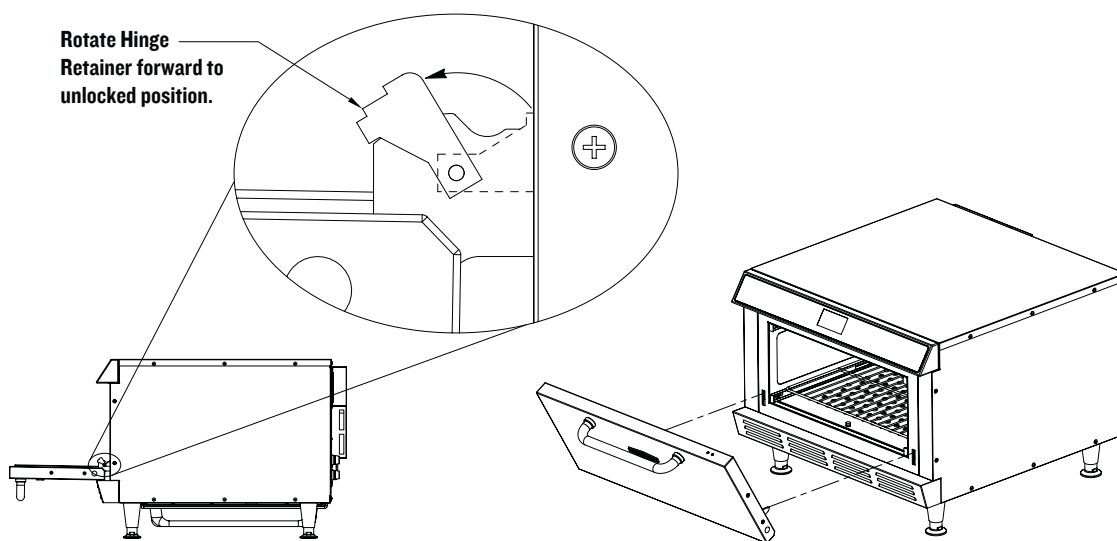

FIGURE 8: Removing the Oven Door
- Rotate hinge retainers to unlocked state. See Figure 8.